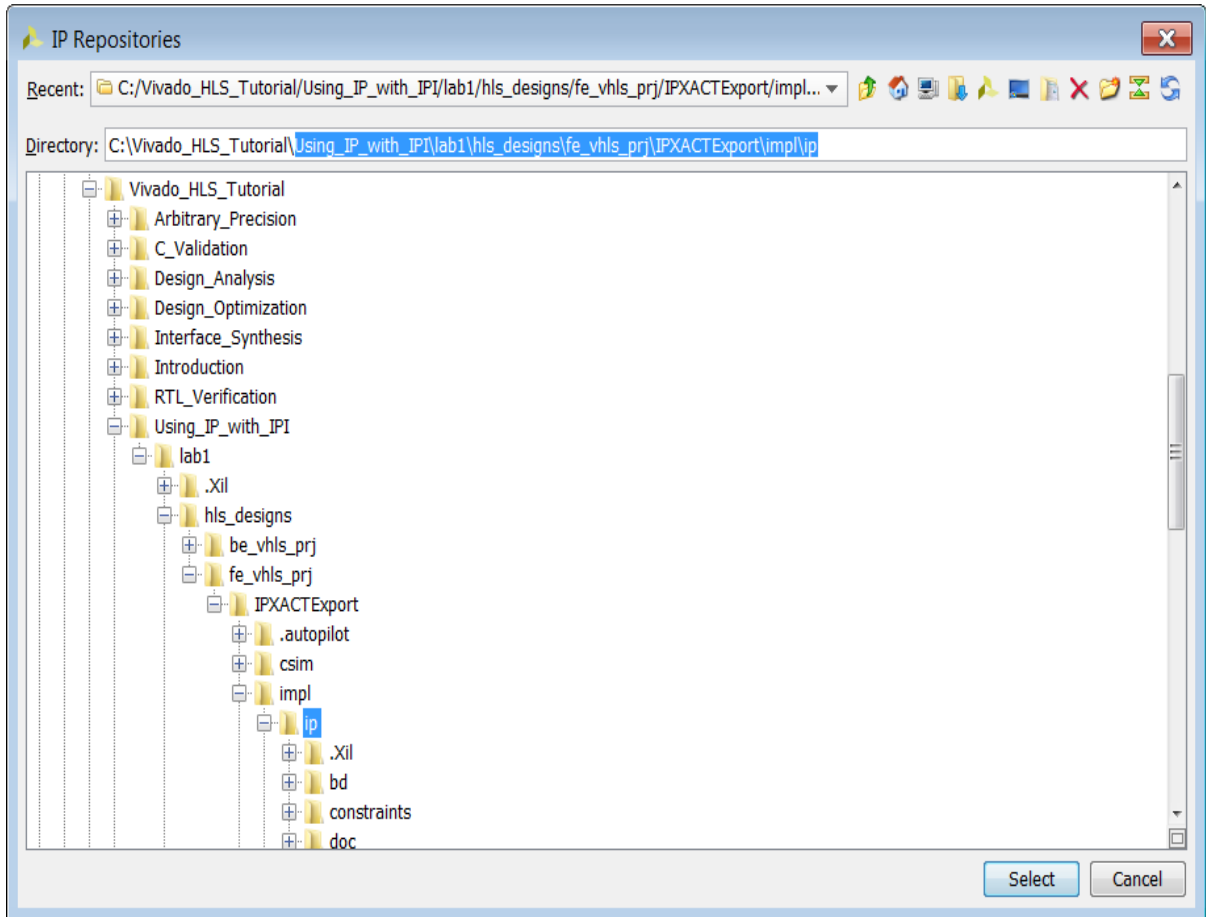

Figure 9-9: Create a New IP Repository
- a. Browse to the tutorial directory, Using_IP_with_IPI\lab1\hls_designs\fe_vhls_prj\IPXACTExport\impl\ip as shown in Figure 9-9.